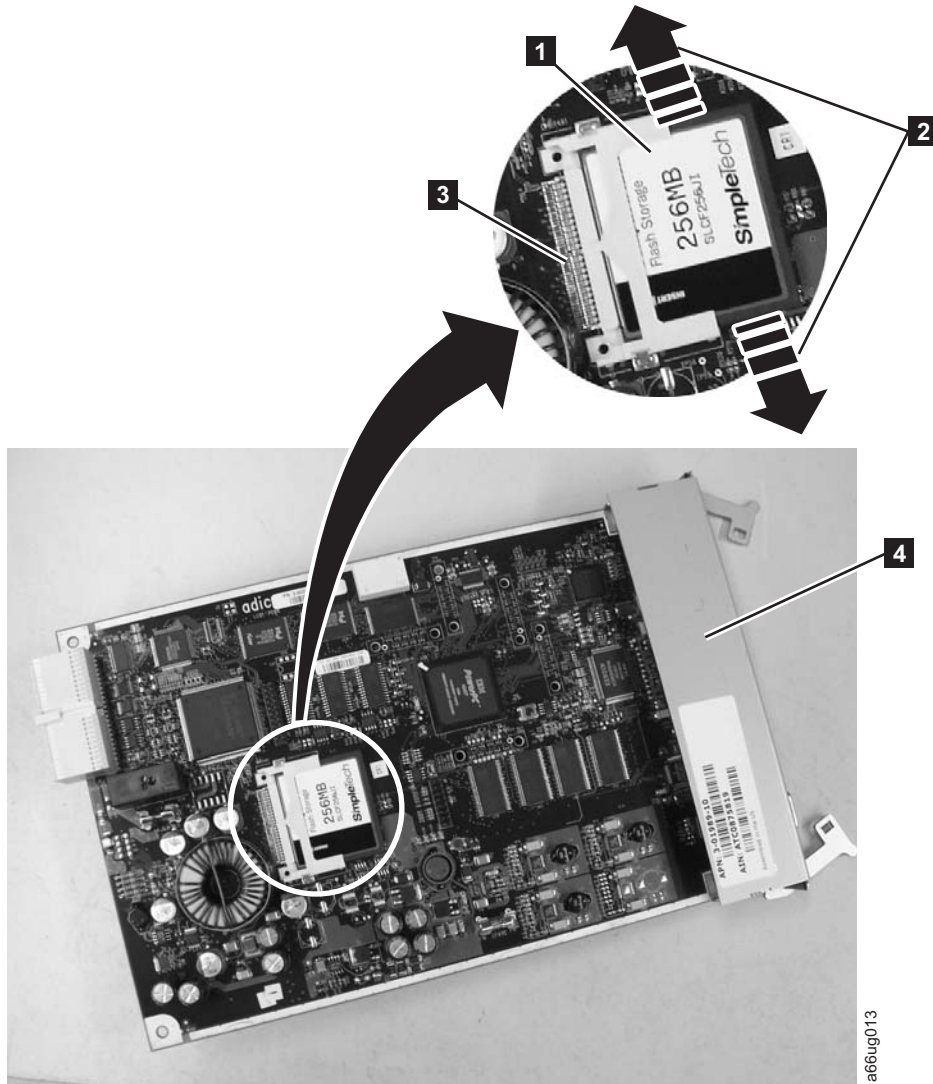

Figure 12-20. Removing the Compact Flash Card from the Library Control Blade
1. Locate the compact flash card component on the LCB board (**1** in Figure 12-20).
2. Without touching any other components on the LCB firmware board, carefully grasp the compact flash card and wiggle it using a gentle, side-to-side motion (**2** in Figure 12-20) until the pins on the compact flash card become disconnected from the pins on the LCB board (**3** in Figure 12-20). Then, slowly slide the compact flash card out of the guide slots.
4. If you are installing a new LCB, continue by transferring the old CF to the new LCB. If you are installing a new CF card, continue by installing the new CF card in the old LCB. In either case, install the appropriate compact flash card to the LCB board you are installing with the label up, and pins aligned. Without touching any other components on the LCB board, carefully grasp the compact flash card, and slowly slide it into the guide slots. Continue to push the compact flash card into the guide slots until the pins start to connect. Then hold the LCB board metal connector shield (**4** in Figure 12-20) with one hand
and push the compact flash card into the connector with your other hand. The compact flash card should be firmly seated against the connector (**3** in Figure 12-20 on page 12-24).